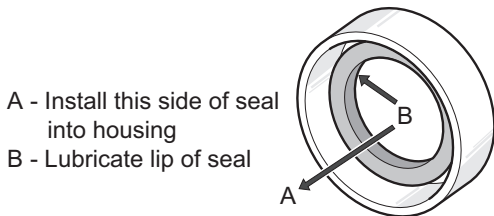

Figure 9 Seal Installation
5. Pack new bearings with grease. See the *Wheel Bearing Packing* on page 48. Apply a light coat of grease to inner race and place inner wheel bearing (7) in hub. Orient new grease seal (8) so the flange side of the seal is facing into the bore. Tap gently into place until seal is flush with end of hub. Lubricate lips of seal and spindle with grease (Ref. Figure 9).